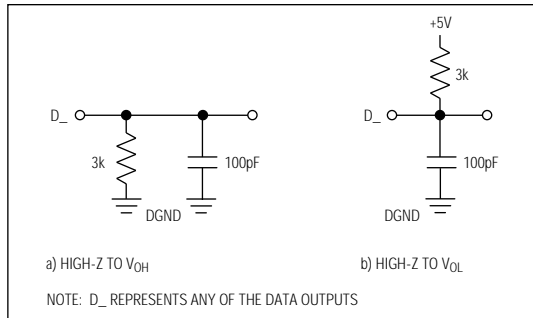

Figure 1. Load Circuits for Data-Access Time Test
**Note 6:**  $t_3$  and  $t_6$  are measured with the load circuits of Figure 1 and defined as the time required for an output to cross 0.8V or 2.4V.